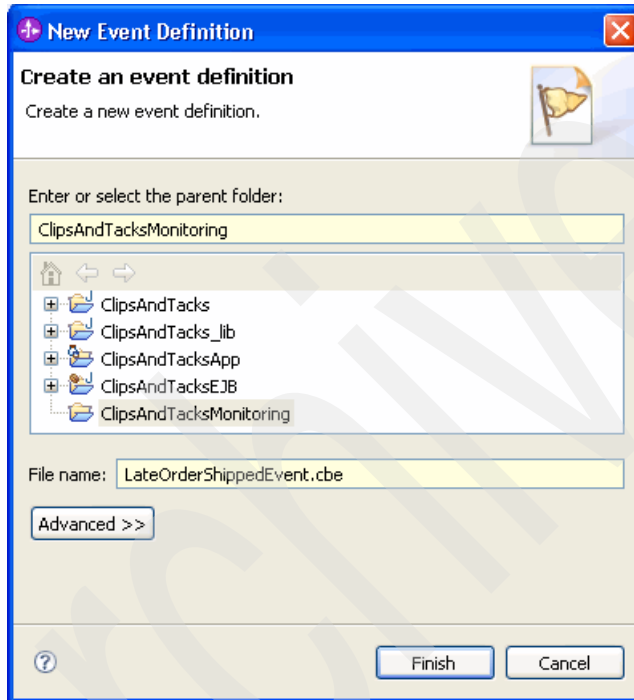

Figure 5-53 Create the Late Order Shipped Event
2. In the New Event Definition window (Figure 5-53 on page 205), select the **ClipsAndTacksMonitoring** folder. For File name, type `LateOrderShippedEvent.cbe`. Click **Finish**.